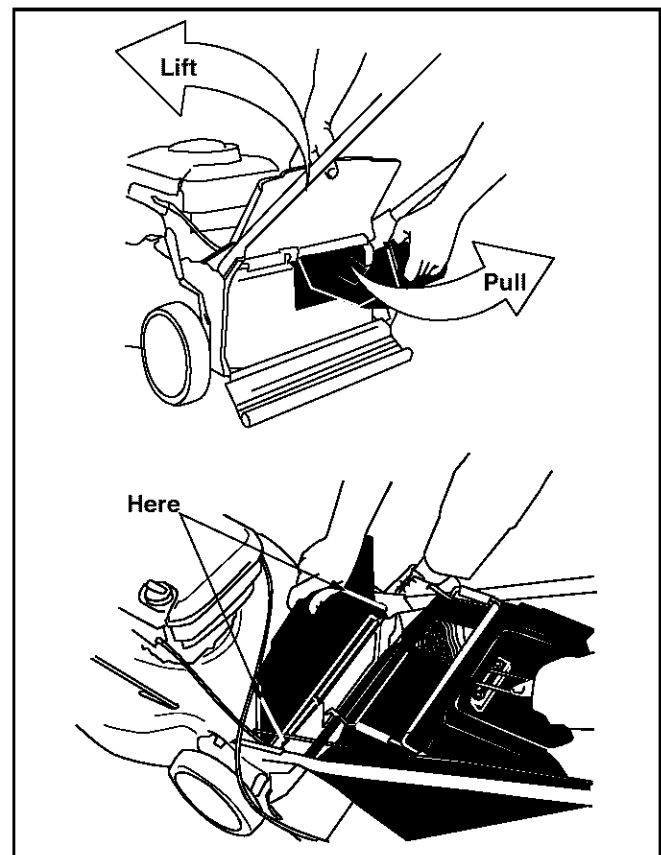

Figure 8
- Lift the rear discharge door and remove the mulching plug, if installed. See Figure 8